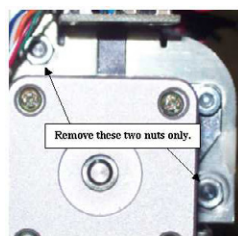

Figure 3 - Thread Feeder Assembly, Left Bracket
5. Loosen the two nuts on the left side at the end of the long bolts as shown in Figure 3 above.